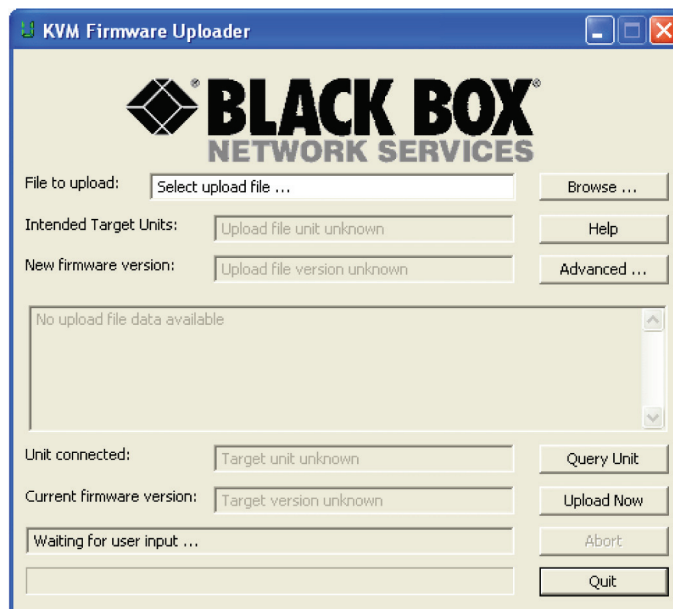

Figure 4-1. KVM Firmware Uploader utility screen.
5. Run the KVM Firmware Uploader utility. From that folder, select the KVMUploader icon to run the upgrade utility. The KVM Firmware Uploader dialog will be displayed as shown in Figure 4-1.